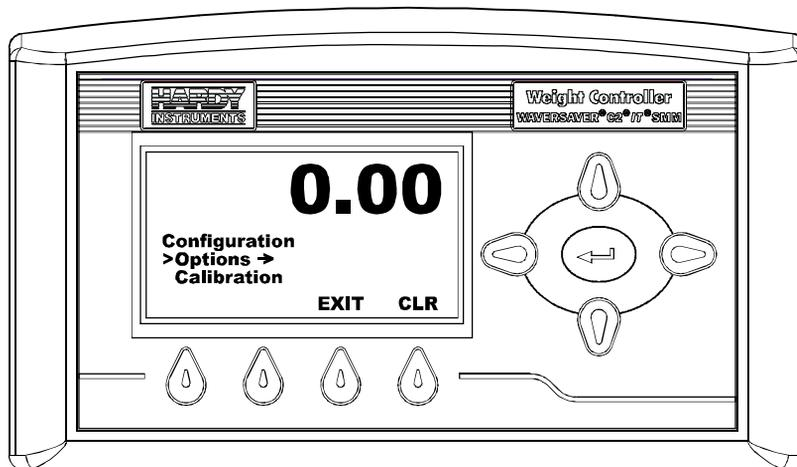

FIG. 170 CONFIGURATION MENU/SELECTING OPTIONS
Step 1. From the summary display, press the Enter button. The Configuration display appears. (See Fig. 170)